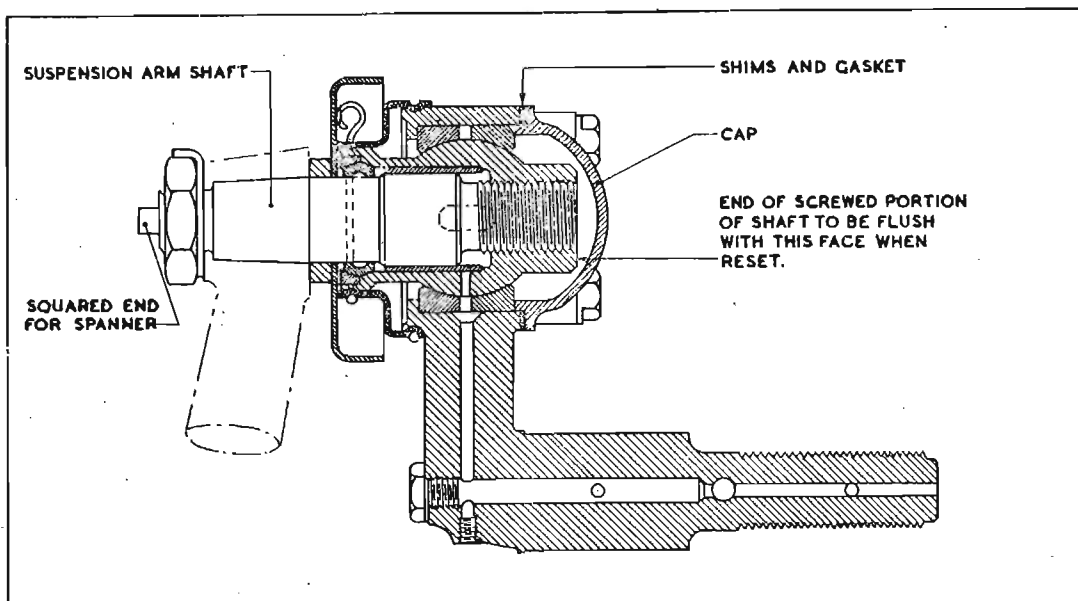

Fig. 2.
7. Re-set each suspension arm shaft by turning the shaft until the end of the threaded portion is flush with the face of the ball sleeve, (see fig. 2).